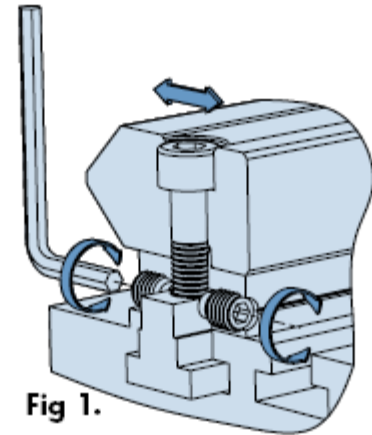

Fig 1.
- HLN back plates will be supplied with tapped holes and M8 dog point socket set screws to ISO 4028 for customers requiring the jacking screw alignment facility. Hole configuration 'B' denotes jacking screw positions corresponding with fixing hole positions, necessary when used in conjunction with the construction beams (see figure 1). Hole configuration 'A' denotes jacking screw positions midway between fixing hole positions and is for general use where customers provide their own center key section or use alignment dowel pins SDPA as shown in figure 2.